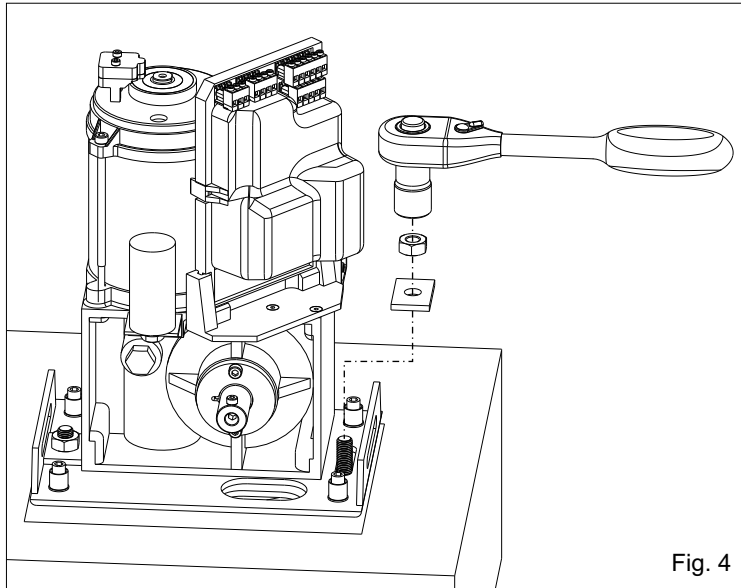

Fig. 4
**3.3.** Fix the motor reducer to the foundation plate with the supplied dices and washers (Fig. 4)